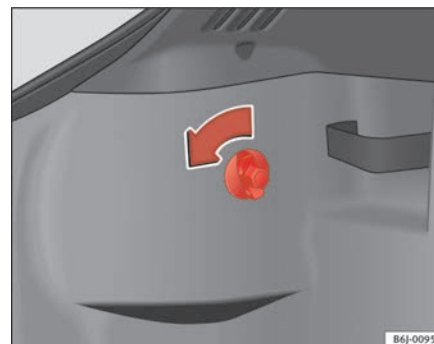

Fig. 144 Access to rear lights
- Turn the bolt in the direction of the arrow, by hand or with a screwdriver ⇒ fig. 144.
- Remove the connector from housing (A) ⇒ page 219, fig. 144.